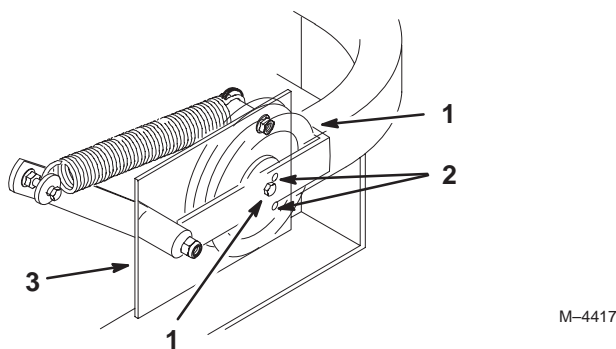

Figure 75
Important Check and make sure the belt is installed into both the front and rear belt guides (Fig 75).
4. Check the belt tension. The spring loaded idler center bolt needs to be near the top alignment hole in left support plate (Fig 75).